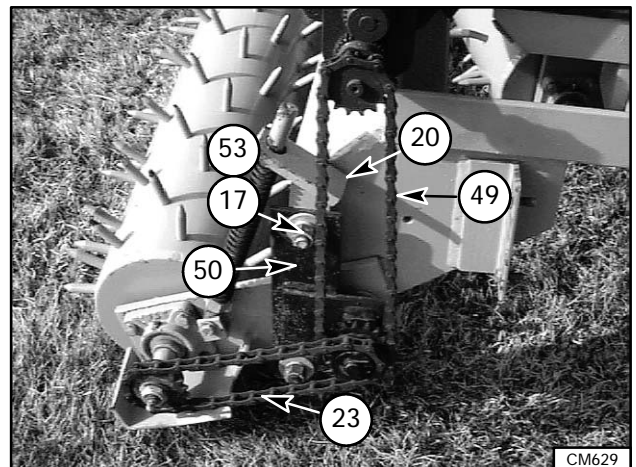

Figure 15. Chain Installation
Remove the two hex nuts (17) and lockwashers (53) from the cap screws securing the spring bracket (20) to the renovator. Place idler assembly (50) over cap screws as shown in Figure 15. Install the 28 link roller chain (49) on the seedbox sprocket and the large sprocket on the idler assembly. Install the 27-1/2 link roller chain (23) on the rear roller sprocket (56) and the small idler sprocket. Loosely secure the idler assembly to the spring bracket with the lockwashers and hex nuts previously removed. Slide the idler assembly forward to properly tension the upper drive chain. **NOTE: Do not tighten chain excessively. Allow some slack in chain.** Tighten the fasteners securing the idler assembly to the spring bracket. Tighten the fasteners securing the seedbox to the renovator frame.